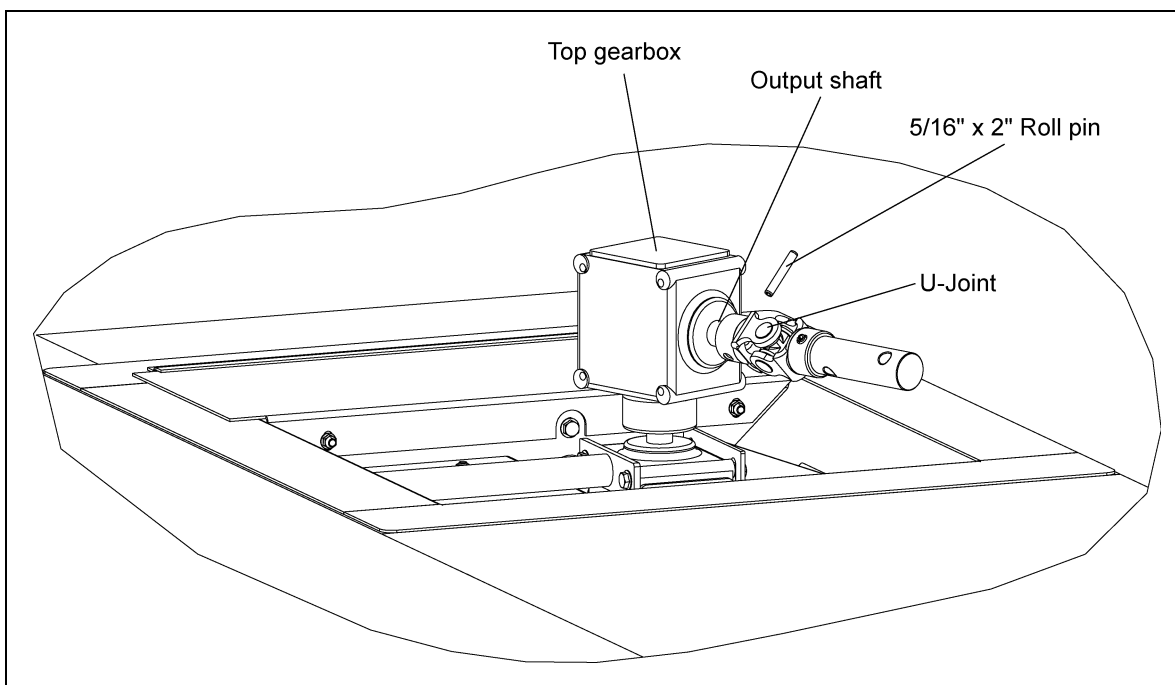

Figure 4X
3. When the flight is approaching the center well shaft, it will be necessary to rotate the flight counterclockwise in order to get it to seat properly on the squared clutch shaft. When the flight is properly seated, the flight should be entirely inside the unload tube. It may be necessary to pull the flight out, a small amount and attempt this step multiple times in order to seat the flight properly. (See Figure 4X.)
- b. Secure the U-joint using a 5/16" x 2" roll pin. *(See Figure 4X.)*